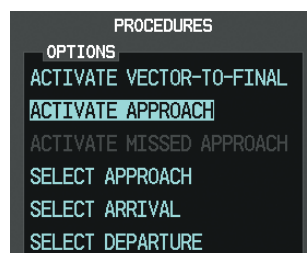

Figure 5-146 Manually Activate Approach
- Turn the large **FMS** Knob to highlight 'ACTIVATE APPROACH' as shown in Figure 5-146.